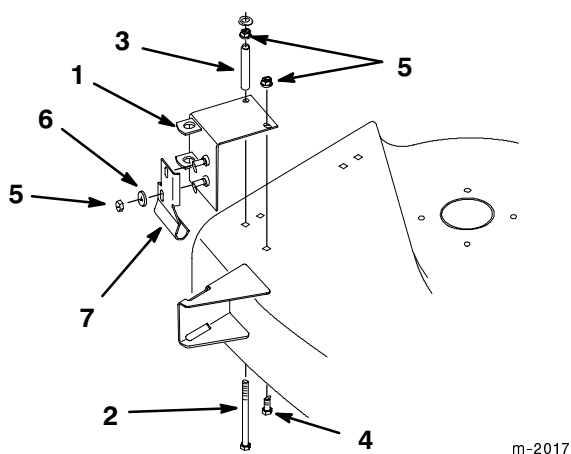

Figure 31
1. Remove the pivot support and pivot bracket from the mower (Fig. 31).